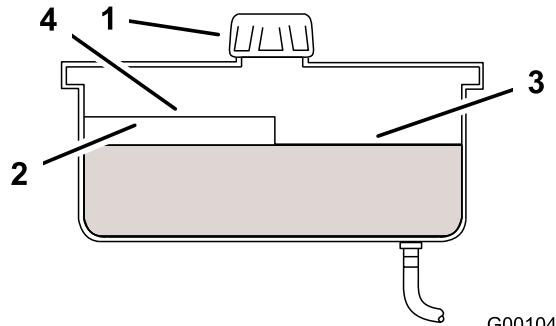

Figure 63
2. Clean the area around filler neck of hydraulic tank (Figure 63).
3. Remove the cap from the filler neck. Look inside to check if there is fluid in the reservoir (Figure 63).
**Note:** The fluid level should be to the top of the hot level of the baffle, when the fluid is hot (Figure 63).